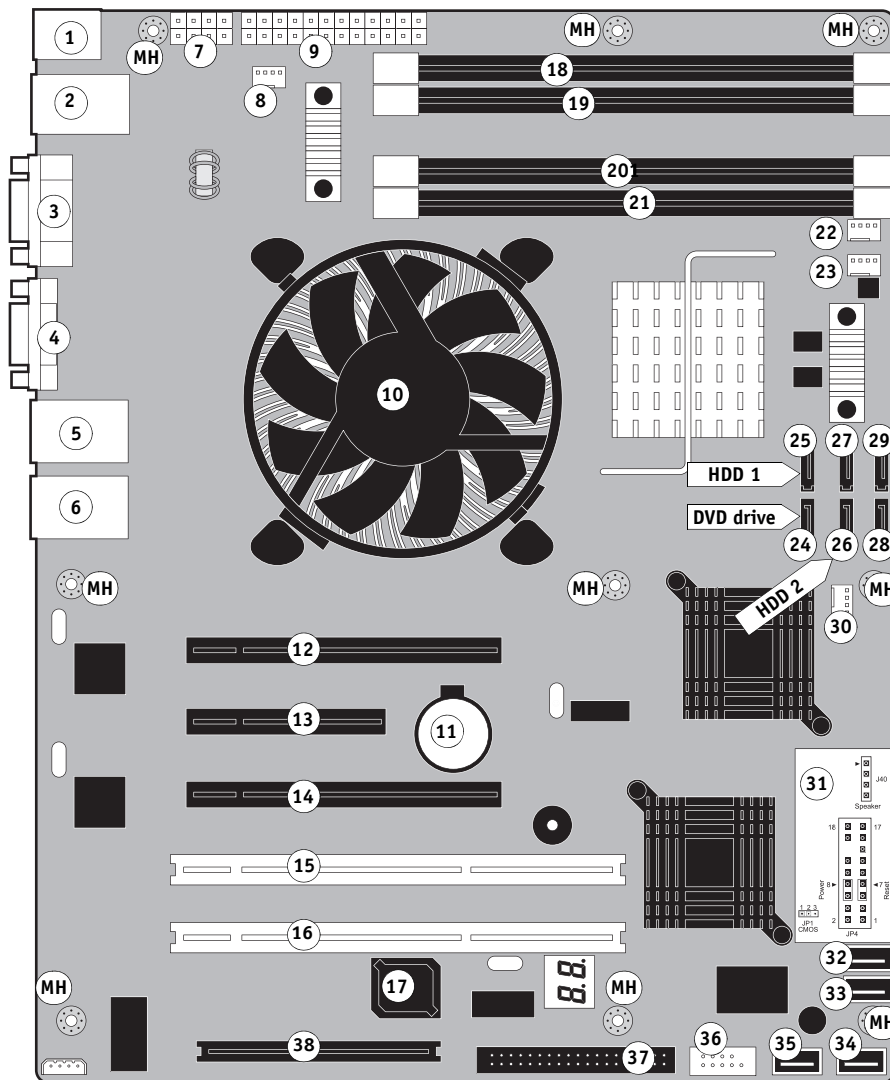

FIGURE 22: Diagram of the imagePRESS Server motherboard
The UIB cable is routed from a connector on the back of the User Interface Board to connector J38 on the motherboard (see Figure 22 on page 62).
For motherboard connector locations, see Figure 22 on page 62.
2. Remove the nine mounting screws securing the motherboard to the chassis (for screw locations, see Figure 22 on page 62).**3. Remove the motherboard from the chassis.**